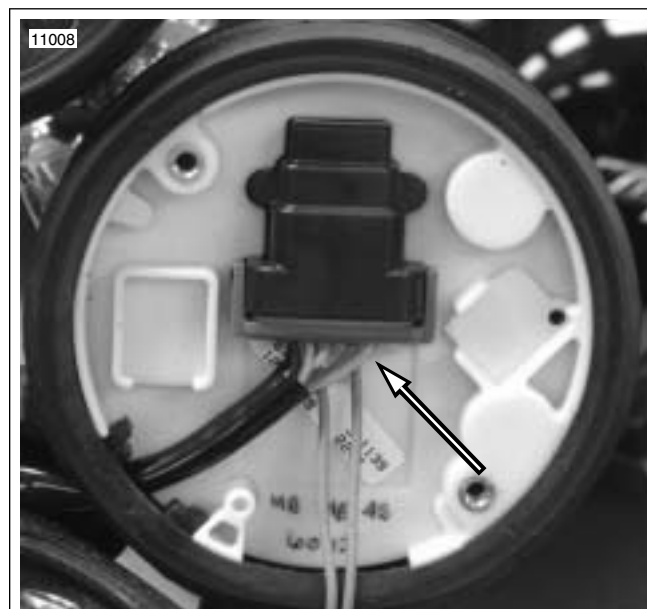

Figure 8-27. Speedometer Connector [39] (typical)
1. See Figure 8-27. Bend back the external latches slightly and remove connector [39B].
2. See Figure 8-27. Detach Harness Adapters from connectors [39A] and [39B].